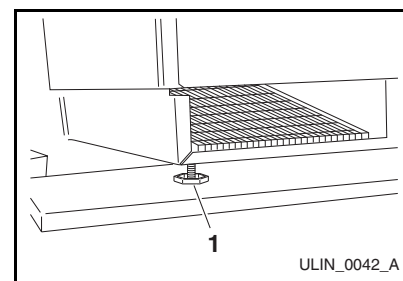

Figure 9
- If the unit is not level, adjust the feet on the corners of the unit as necessary (**Figure 9**).